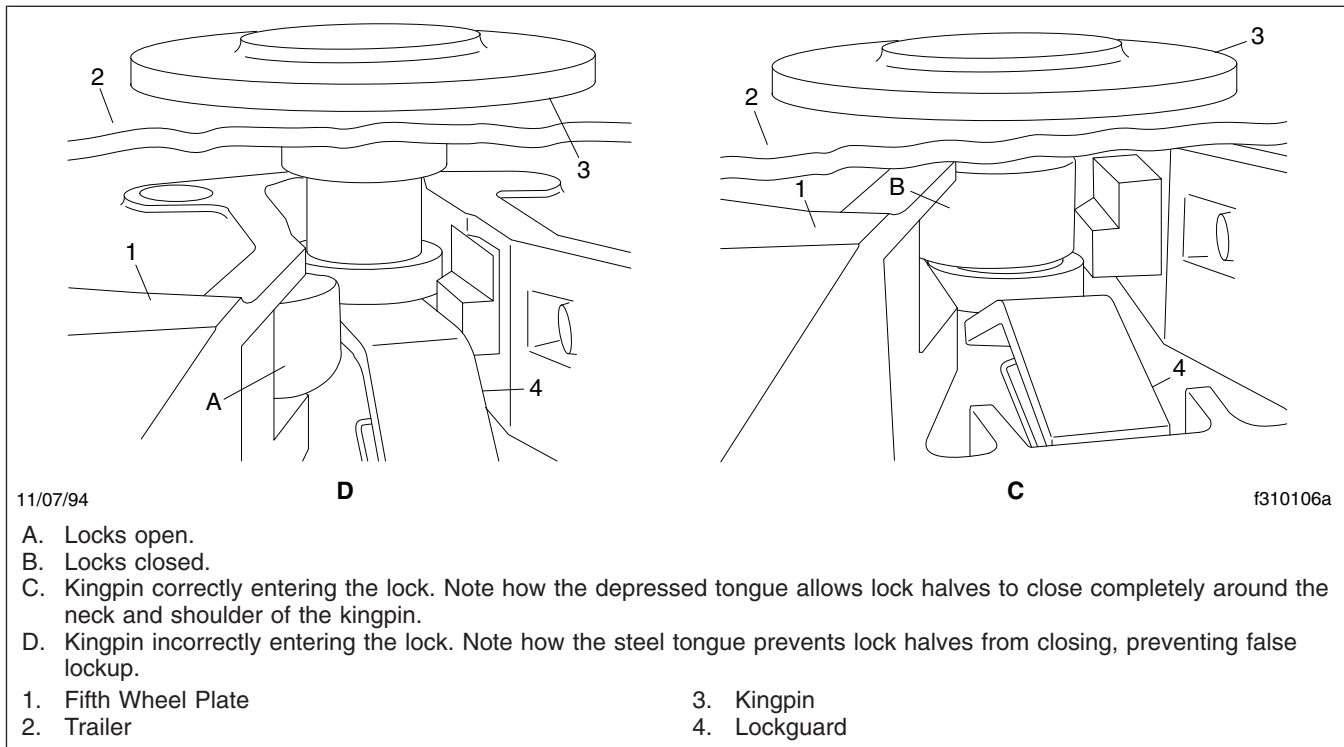

Fig. 10.5, Lockguard Mechanism (rear view)
The Holland lockguard (Fig. 10.5) is a device that prevents a false lockup, and is used on all models. The Lockguard is a spring-tensioned, smooth-surfaced tongue that the kingpin passes over and depresses when entering the lock mechanism. The Lockguard will prevent the locks from engaging before the kingpin fully enters the locks. If the kingpin enters the fifth wheel incorrectly and does not depress the tongue, the locks are unable to close.
3. Position the tractor so that the fifth wheel lock opening is in line (both vertically and horizontally) with the trailer kingpin. The kingpin should be in a position to enter the throat of the locking mechanism, to prevent a false lockup. See Fig. 10.5. Adjust the trailer landing gear to give enough alignment height so that the fifth wheel picks up the trailer on the fifth wheel ramps.